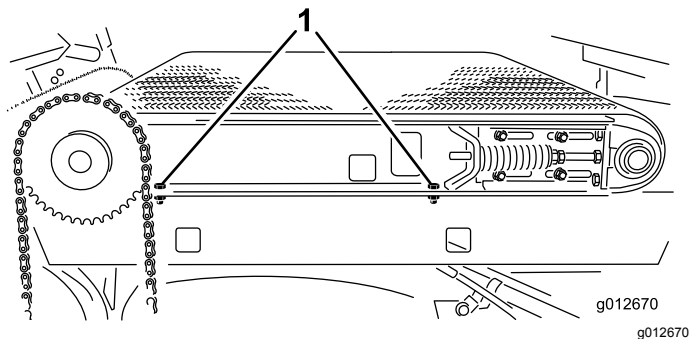

Figure 27
4. At the right side of machine, loosen 2 capscrews that secure slider-frame rail to the right fender (Figure 27). Ensure that the capscrews are loose enough to allow slider bed tip.